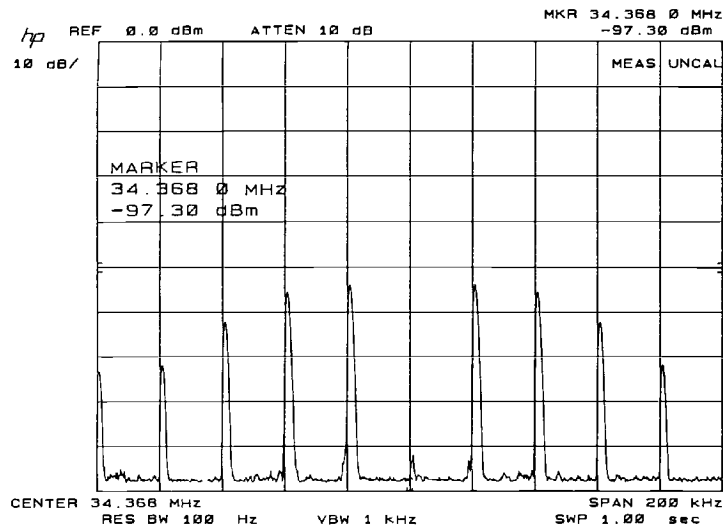

Figure 3-47
5. Adjust the HP 37717C jitter amplitude (approximately 0.77 UI) until the first **Bessel Null** is observed on the Spectrum Analyzer i.e first dip in the carrier level. (As an example Figure 3-47 shows the first Bessell Null for 34MHz.)